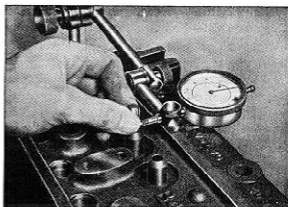

Fig. 21. Measuring valve stem clearance
- Measure the clearance between the stem and guides as shown in Fig. 21. With a new valve the clearance should not exceed 0.15 mm (0.006"). Also check that the valves are not excessively worn. See the specifications under the headings "Valve system" and "Wear tolerances".